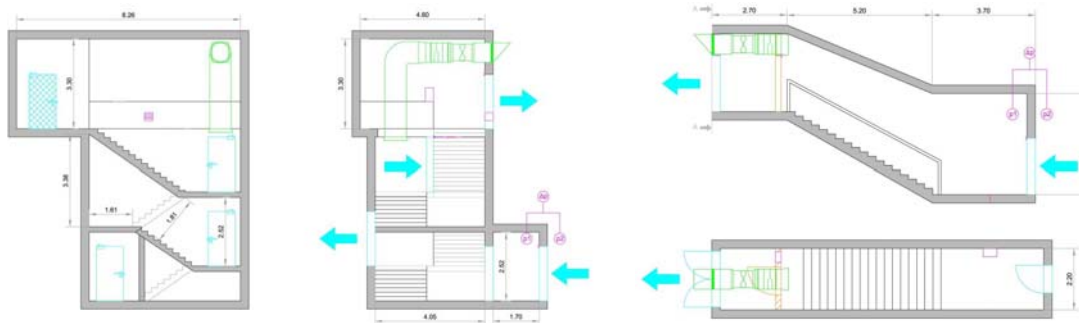

Figure 5 - Staircases
- Staircases: 4, closed by doors and ventilated (**Figure 5**)